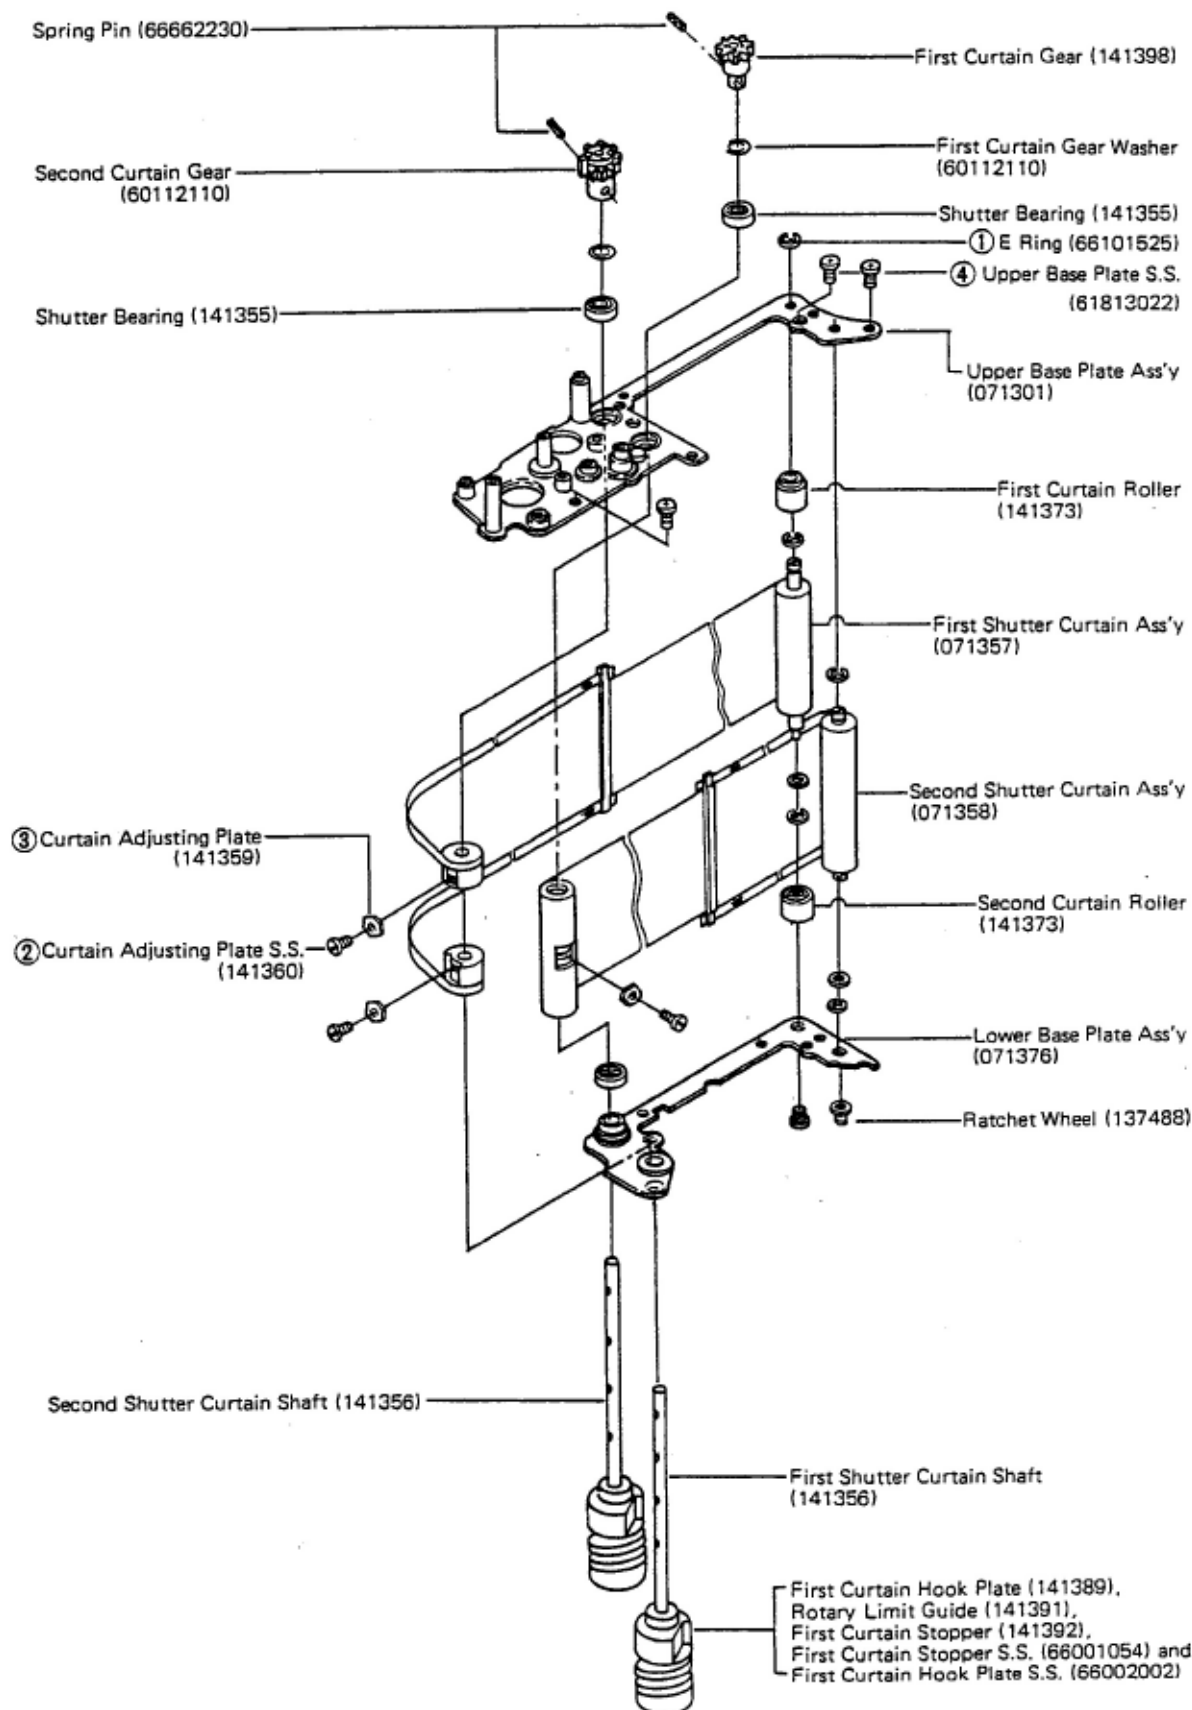
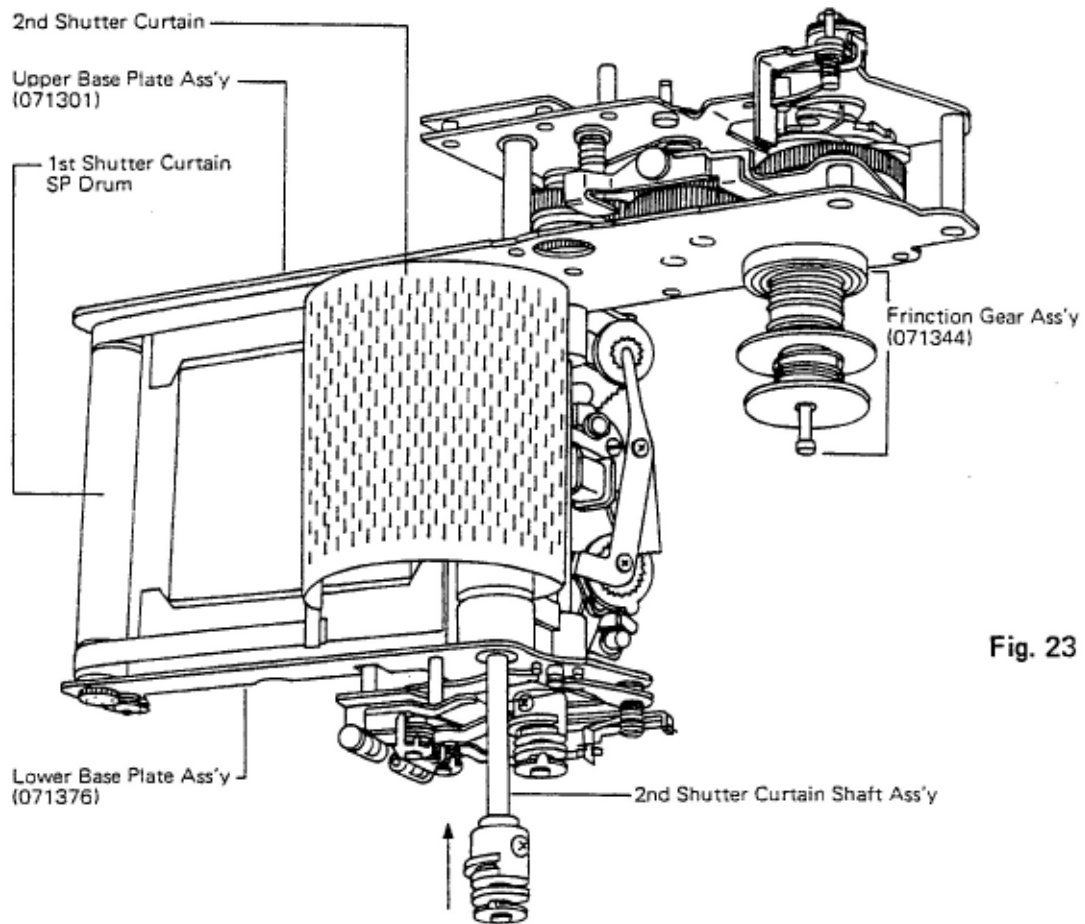

Fig. 22
Fig. 23
- (1) Disassembling of 1st & 2nd shutter curtain ass'y from the Shutter Mech. Ass'y (This operation can be performed after completion of "1. DISASSEMBLING OF THE EXTERIOR PARTS" on page 2. "2. DISASSEMBLING OF THE MOUNT BASE ASS'Y" on page 4 and "4. DISASSEMBLING OF SHUTTER MECH. ASS'Y FROM THE CAMERA BODY" on page 9.)
- a) Remove the Spring Pin (66662230x2) from the First Curtain Gear (141398) and Second Curtain Gear (141399). (fig. 22)
- c) Remove the respective parts ①~③ shown in (fig. 22) in numerical order. (To remove ② and ③ from the 2nd shutter curtain shaft (141356) rotate the Rotary Limit Guide (141391) about 90° counterclockwise.)
- d) Remove ④ Upper Base Plate S.S. (61813022x1). (fig. 22)
(2) Reassembling of the 2nd Shutter Curtain Ass'y to the Shutter Mech. Ass'y.
- a) Fix the 2nd Shutter Curtain SP Drum between Upper Base Plate Ass'y (071301) and Lower Base Plate Ass'y (071376) properly. (fig. 22) or (fig. 23)
(At this stage, the Second Curtain Gear should not be fixed to the 2nd Shutter Curtain Shaft with the Spring Pin yet.) (fig. 23)
- f) Place and hold the 2nd shutter curtain as shown in (fig. 26) and fix the 2nd Shutter Curtain Drum to the 2nd Shutter Curtain Shaft with a Curtain Adjusting Plate (141359) and Curtain Adjusting Plate S.S. (141360) (fig. 22) or (fig. 23)
- g) Fix the Ratchet Wheel and turn it 2 turns. (fig. 22)
**(3) Reassembling of the 1st Shutter Curtain Ass'y to the Shutter Mech. Ass'y.**
(4) Adjustment of shutter curtain position.
- a) Cock the shutter by turning the Friction Gear Ass'y (071344) clockwise. (fig. 23)
- The 2nd shutter curtain position adjustment can be performed by changing the direction of Curtain Adjusting Plate (141359). (fig. 22)
- The 1st Shutter Curtain position adjustment can be performed by changing the direction of 2 x Curtain Adjusting Plates (2x141359). (fig. 22)